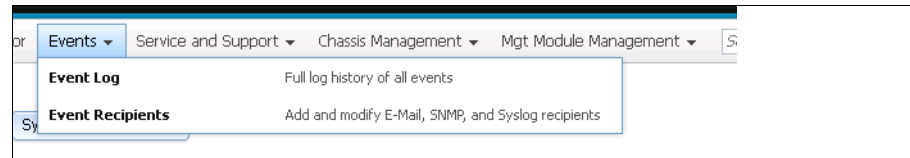

Figure 7-11 Event options
- ▶ Events, as shown in Figure 7-11 on page 207